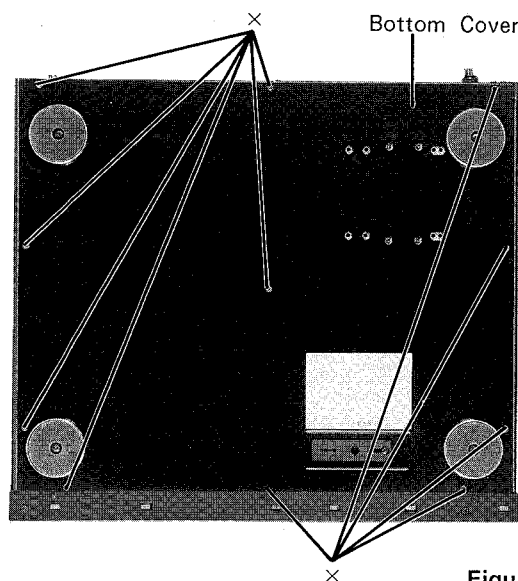

Figure 6
- (1) Remove eleven screws marked "X" as shown in Figure 6.